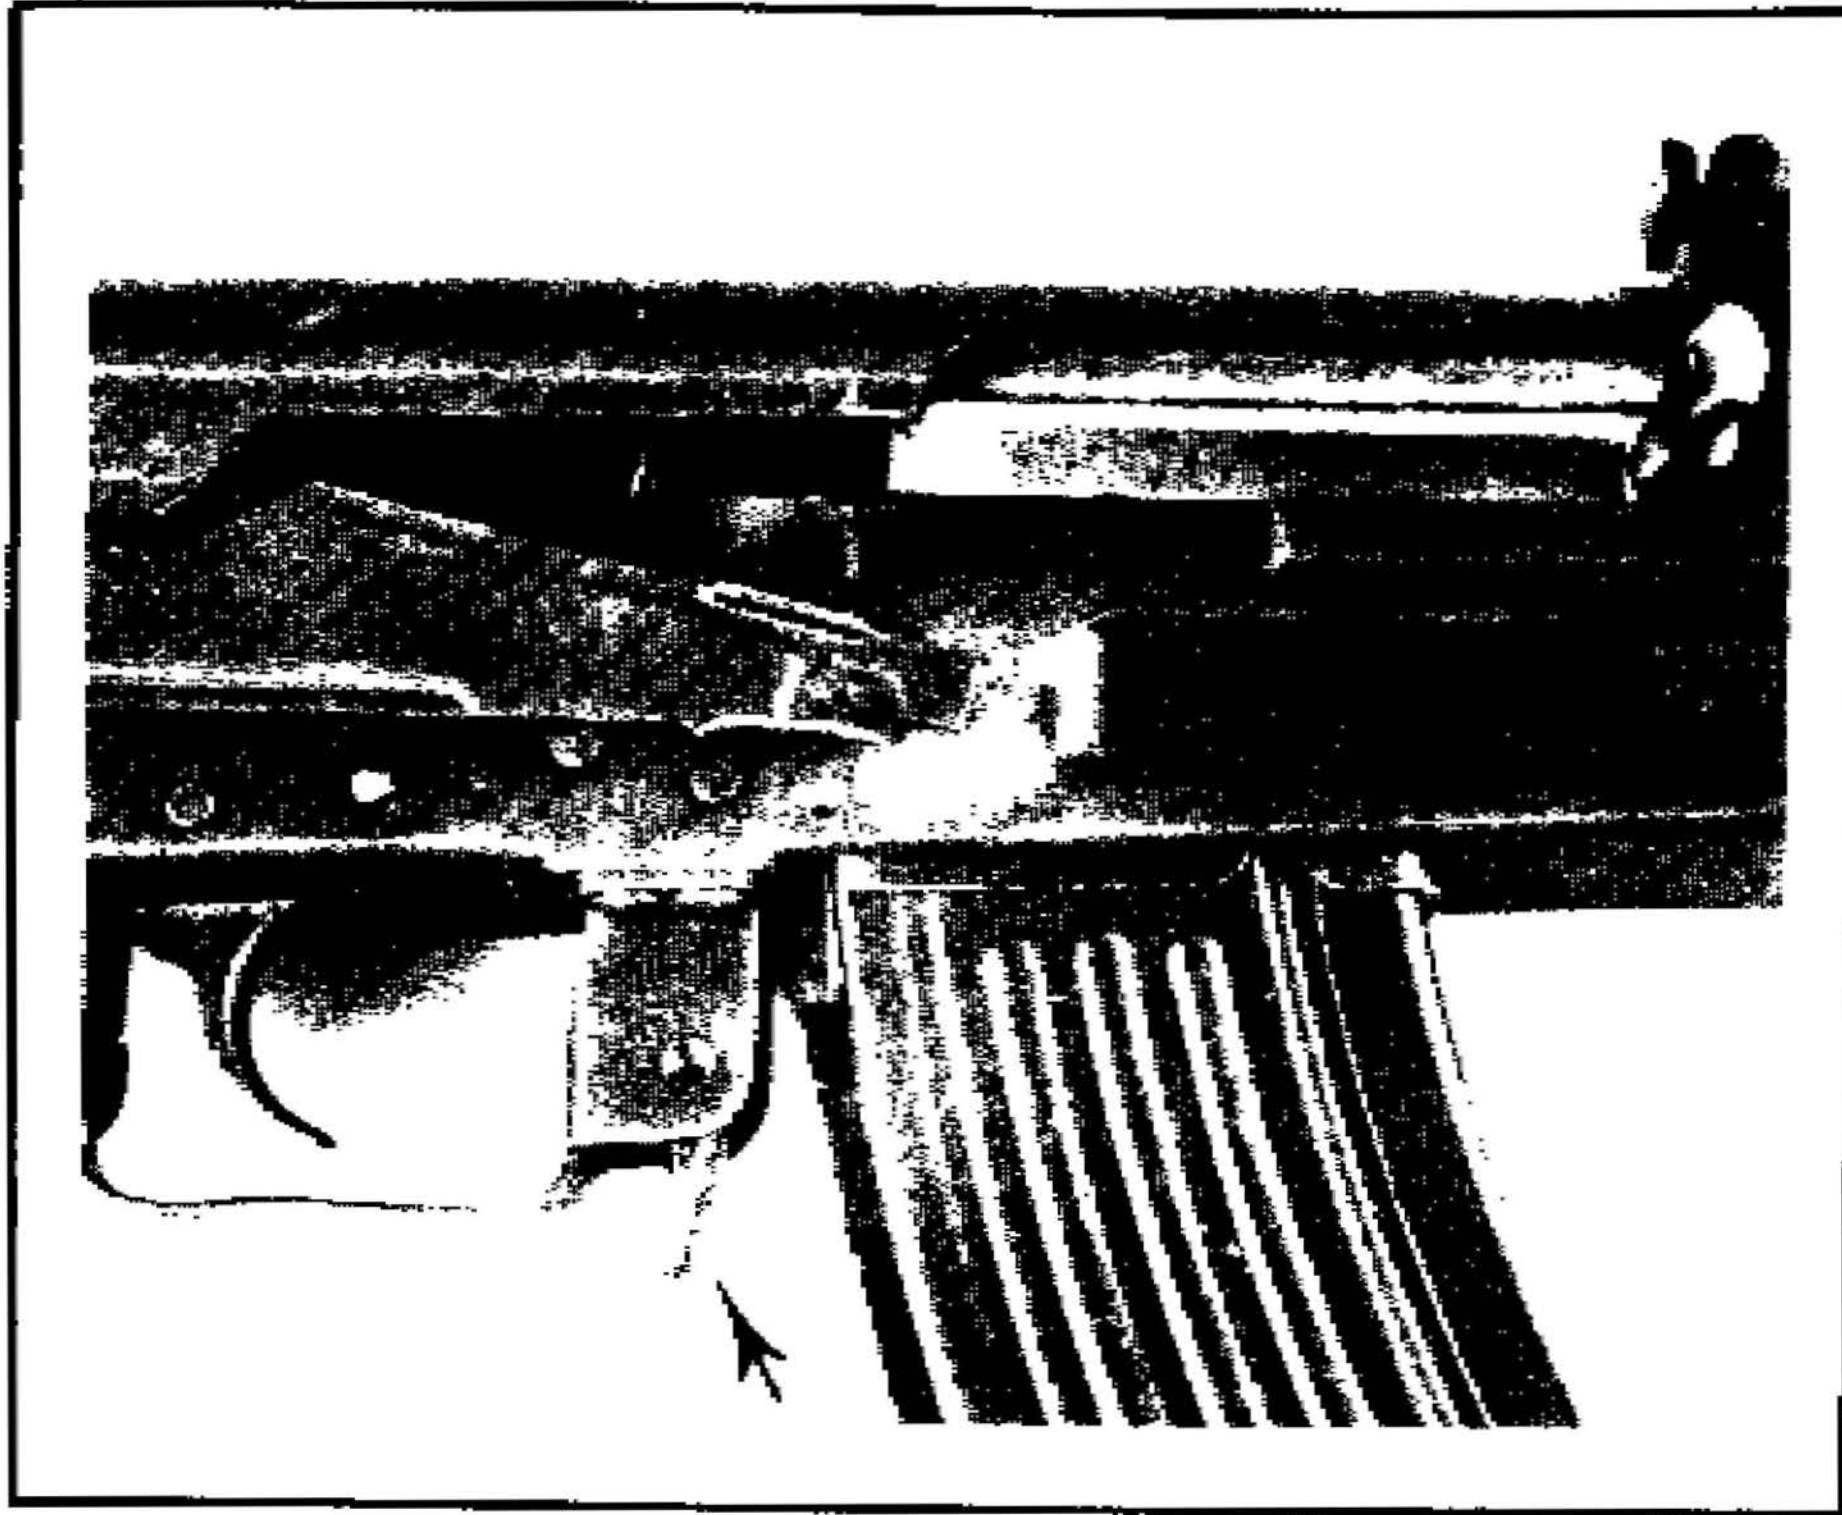
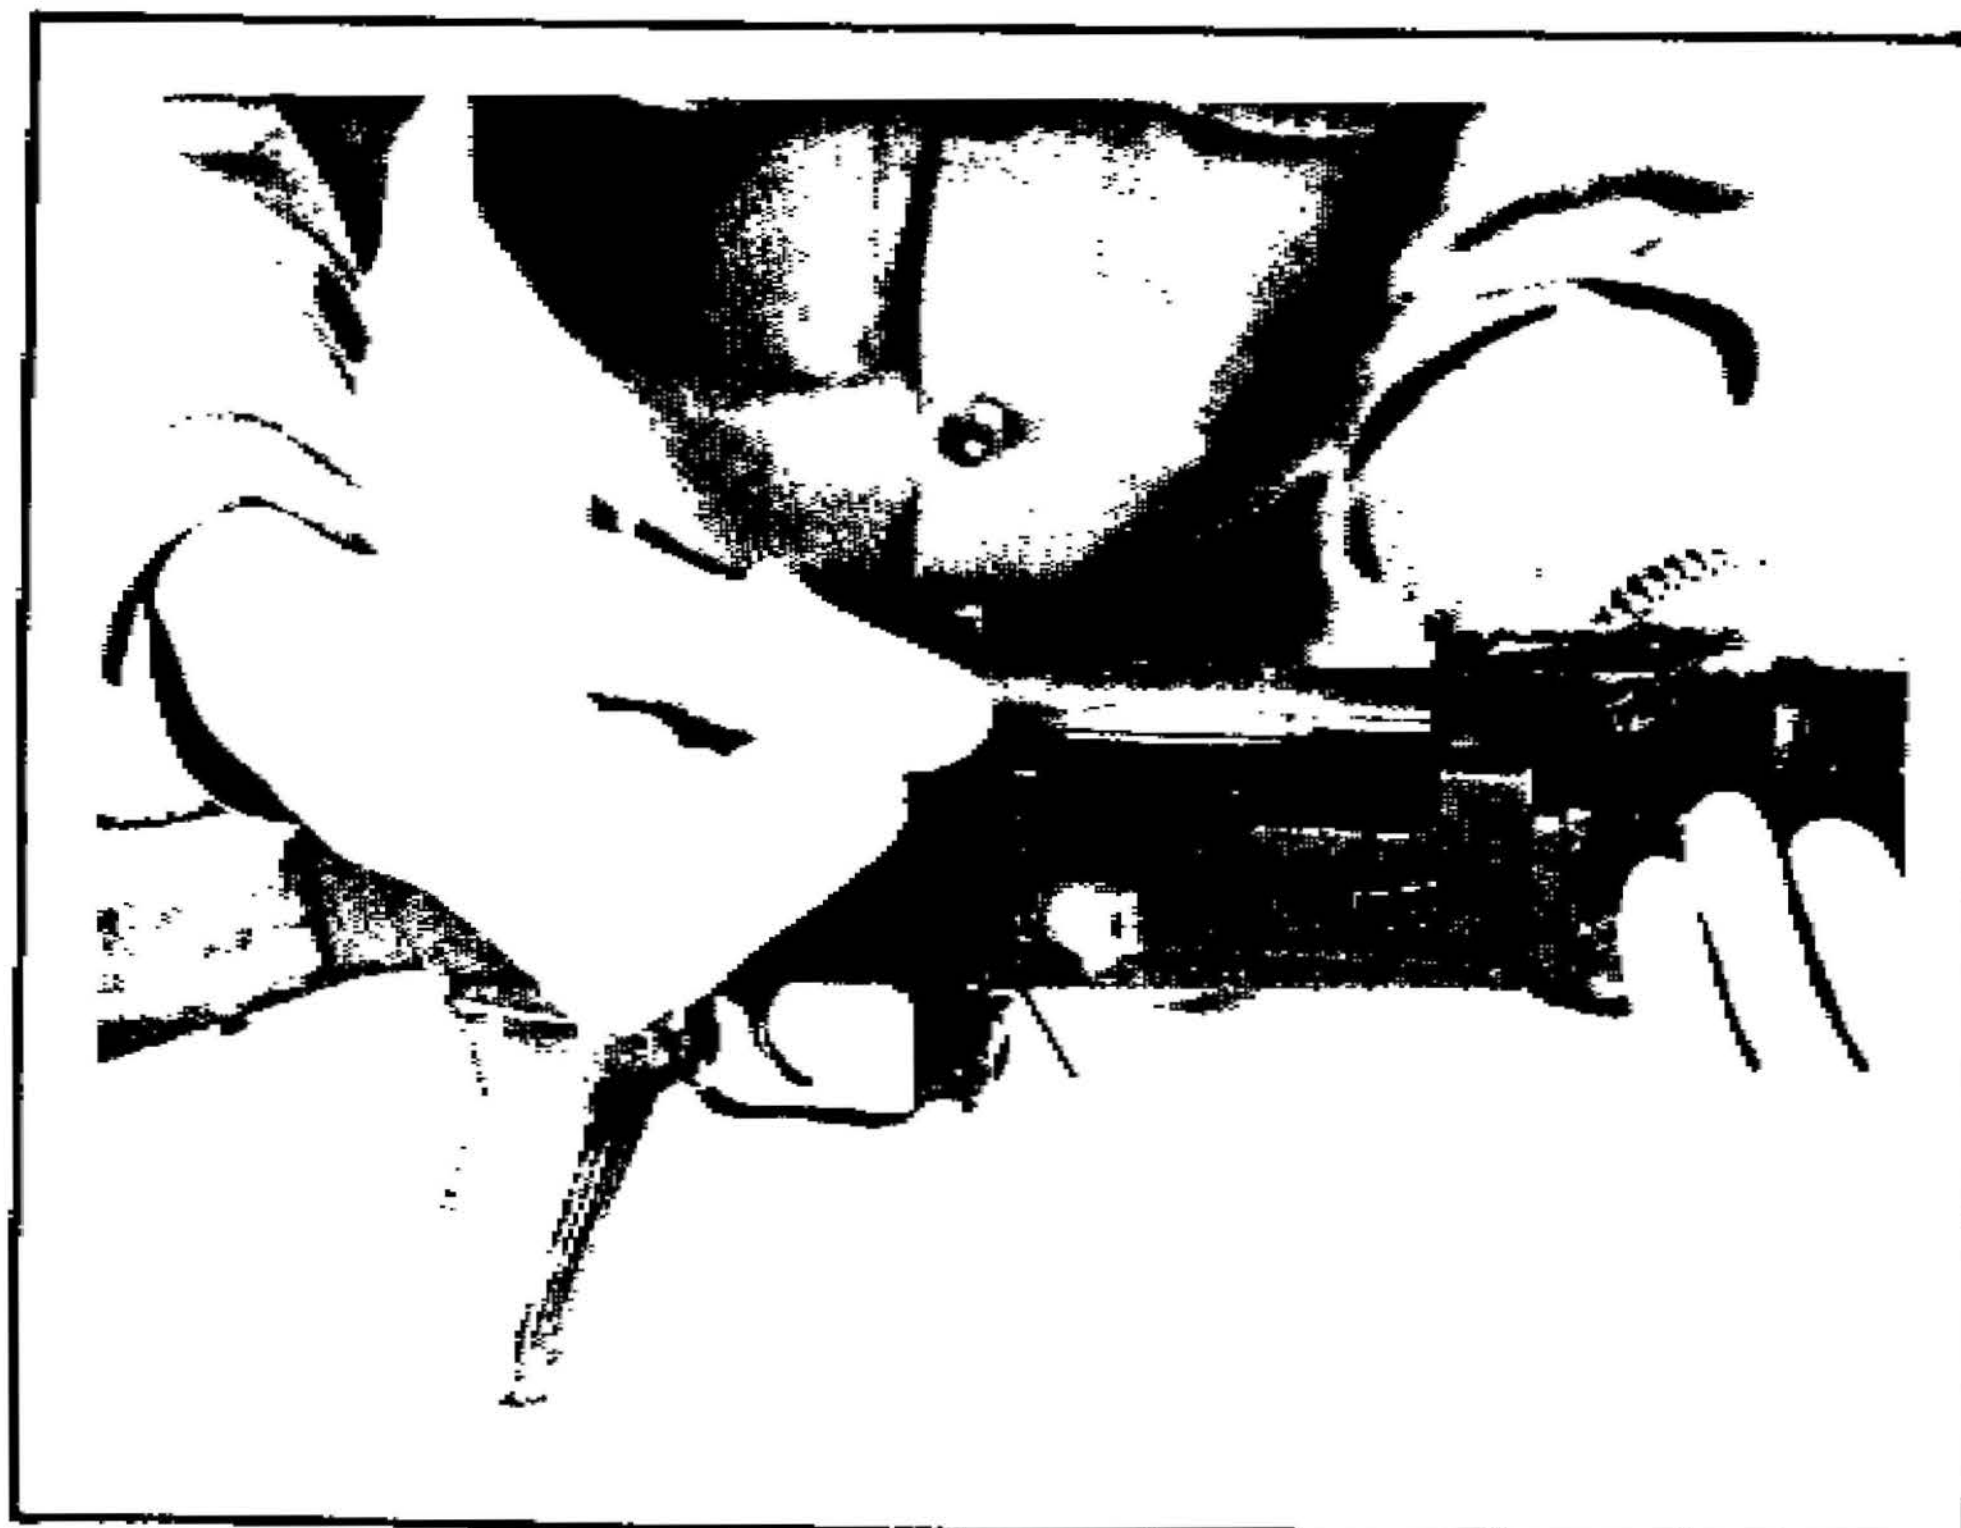

FIGURE 15. MAGAZINE CATCH
FIGURE 16. OPERATING HANDLE
**Unloading:** Remove the magazine by pressing the magazine catch (fig 15) toward the magazine; then swing the magazine forward and out of the receiver. Pull the operating handle fully to the rear, inspect the chamber and receiver. If no cartridge is present, release the operating handle and pull the trigger (fig 16).